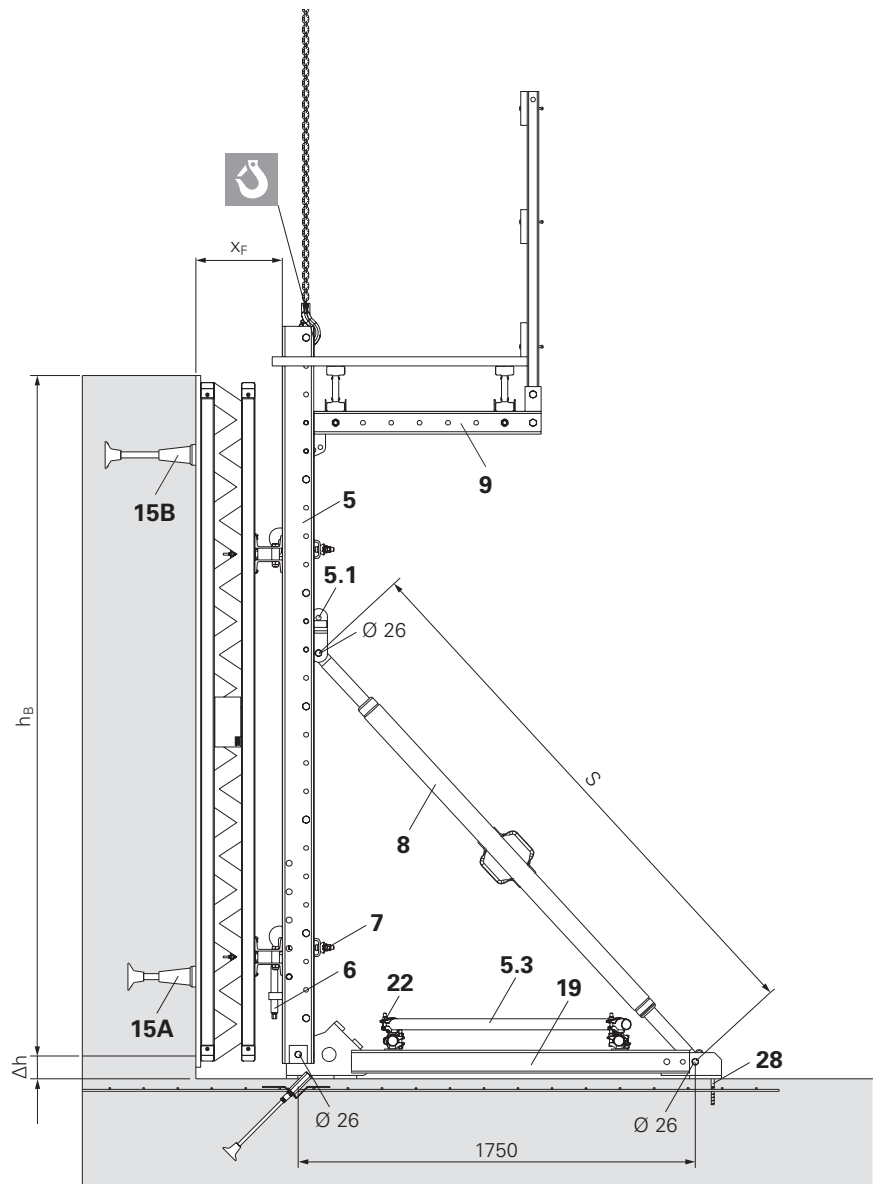

Fig. A2.03
15. If a Tension Belt is to be fitted, a bottom Anchor (15A) is to be mounted. (Fig. A2.03)